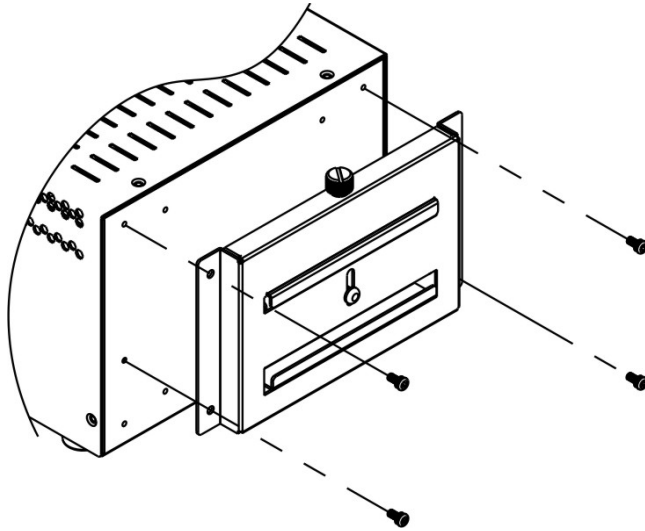

Figure 4-9: DIN Rail Mounting Bracket
Step 3: Attach the DIN rail mounting bracket to the bottom panel of the embedded system. Secure the bracket to the embedded system with the supplied retention screws (**Figure 4-9**).